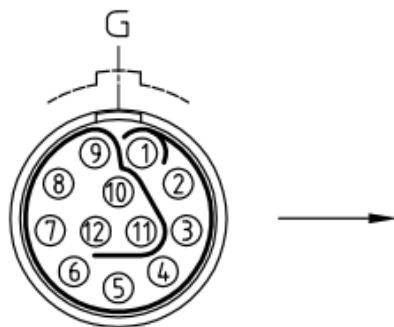

Figure 4 Combined navigation system power supply, communication interface point number (product socket, welding surface)
- a power supply, communication interface (EEG.0T.312.CLN), whose contact sequence is defined as shown in Figure 4;